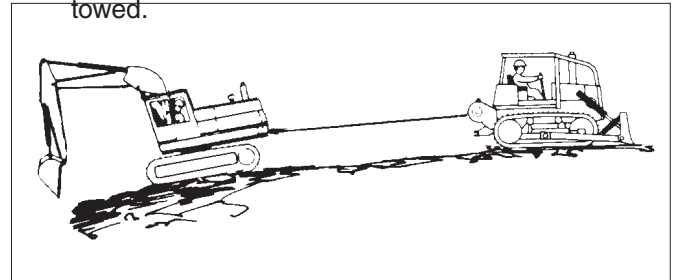

Figure 18 Moving a Disabled Vehicle (Step B)
B. A dozer or skidder equipped with a winch can be used to pull another vehicle from mud or other areas where it cannot move using only the drive wheels or tracks. See Figure 18. Use the following procedure: